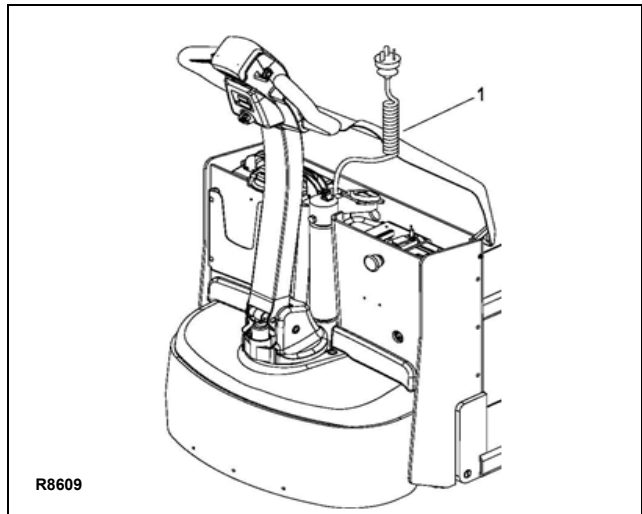

Figure 3-1 Internal Battery Charging
3. Pull the charger cord (1) out of the top cover (Figure 3-1) and connect to the appropriate power supply.